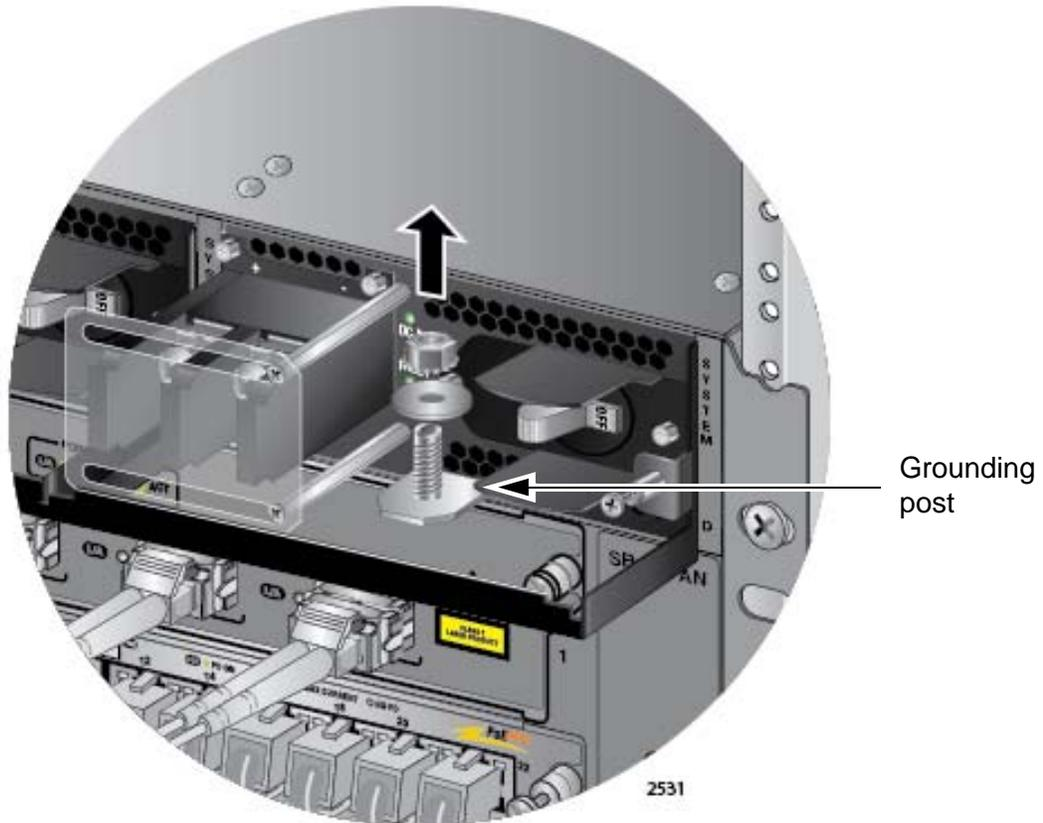

Figure 114. Removing the Nut and Washer from the Grounding Post
3. Use an 8 mm wrench to remove the grounding post nut and washer, shown in Figure 114, from the power supply.
2. Use an 8 mm wrench to remove the grounding post nut and washer, shown in Figure 114 on page 178, from the grounding post on the power supply.